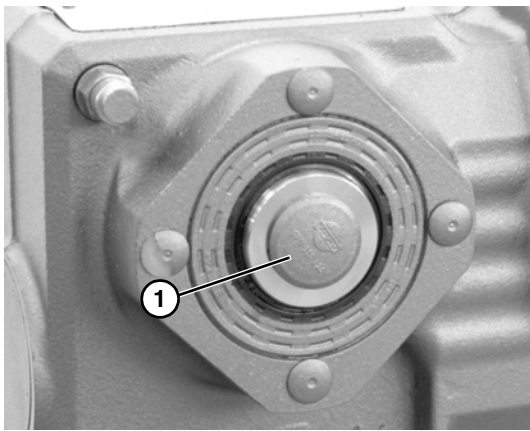

Figure 15
- Remove snap in cover (**Figure 15, item 1**) on opposite side of gearhead.
- Snap on cover (**Figure 15, item 1**).